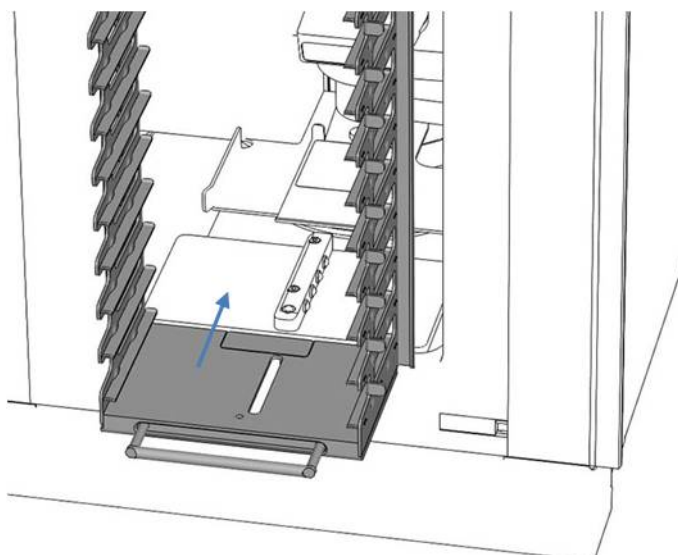

Figure 6: Placing the shelf
1. Hold the shelf by the top and bottom handles and slide it on the shelf locking rail on the base plate (see Figure 6). A recess for the shelf locking rail is provided on the bottom side of the shelf.